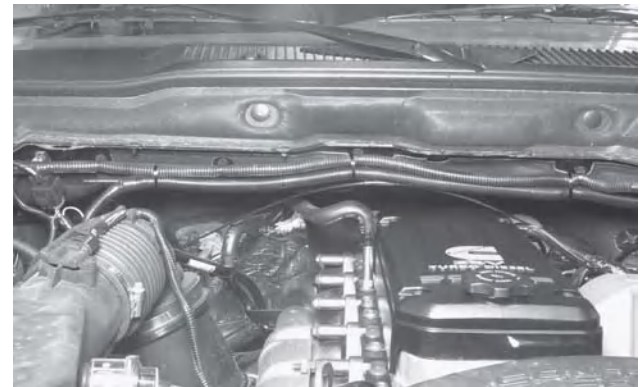

Fig. 21c
- Tighten the tie wraps holding the wire harness. (see figure 21c)